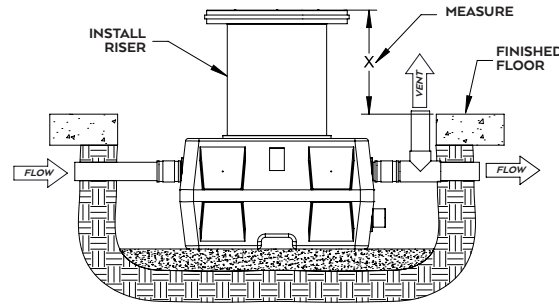

FIGURE 2
5. From the top of the adapter, measure your needed total riser height downward to the sidewall of the riser. Then, add 5" (for AA-M or AA-L) or 6" (for AA-XL). For example, if you have a AA-XL and need a 15-1/2" extension, you would measure down from the top of the adapter 21-1/2" (15-1/2" + 6" = 21-1/2"). See Figure 2.
4. Push riser into ring until it stops (about 1 inch). See Figure 2.
5. Measure the distance from the top edge of the riser down to the finished floor. Make sure to account for any future tile work in your measurement. See Figure 2.